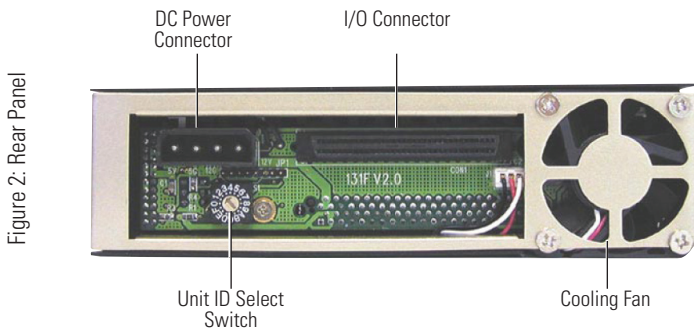

Figure 2: Rear Panel
**Unit ID Select Switch:** (See Figure 2) Allows user to select the ID number of the disk drive. Refer to table below for Unit ID hex reference.